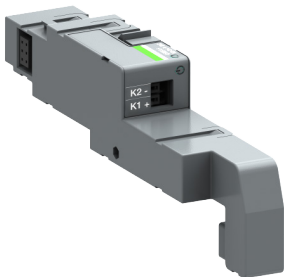

Fig. 5.6 Auxiliary power supply module, type OXE1, is needed when Ekip Signalling, Com and Link -modules are mounted to automatic transfer switch OX\_
The Ekip Programming -module is suitable to use with all ZTS(D) 1600-3000 A and ZTSC T 400-3000 A, 208-480 Vac automatic transfer switches. You can connect the module via the programming port, see Fig. 5.6. The programming port is only compatible for use with Ekip Programming and Ekip Bluetooth -modules.
The Ekip Programming -module draws its power from the PC and connects one side directly to the programming port (see Fig. 5.6) and on the other to the USB port of the PC with the cable supplied.